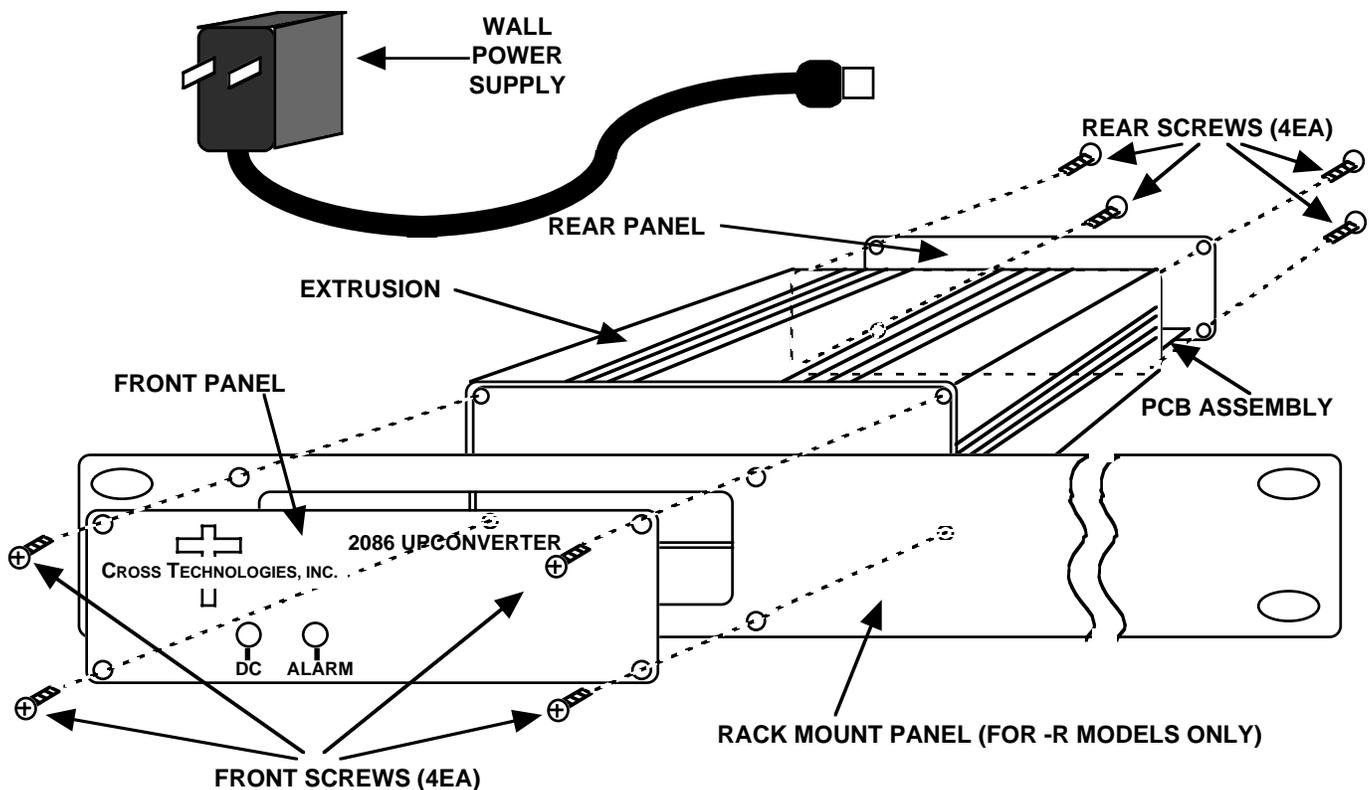

FIGURE 2.3 2086 Assembly
The 2086 is packaged in an aluminum extrusion. The **-R option** is mounted on a 1 3/4" X 19" panel that can be mounted to a rack using the 4 holes at the ends. The 2086 derives ± 15 VDC from the wall power supply. See Figure 2.3.
- 2.) Remove four (4) **rear panel screws** (see Figure 2.3).
- 5.) Install four (4) **rear panel screws**.